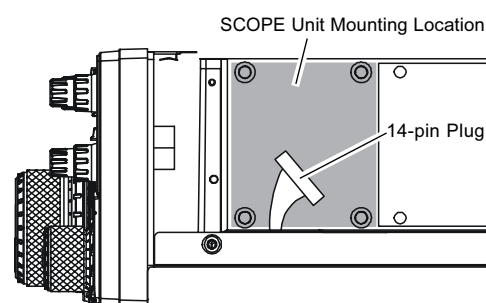

Figure 2
3. Refer to Figure 2 for the mounting location for the SCOPE Unit. Locate the 14-pin plug taped on the chassis. Remove the tape and remove the 14-pin plug from the chassis.